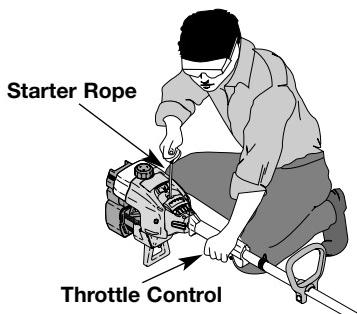

Fig. 11
**WARNING:** Avoid accidental starting. Be in the starting position when pulling the starter rope (Fig. 11). The operator and unit must be in a stable position while starting to avoid serious personal injury.
5. With the unit on the ground, squeeze the throttle control and pull starter rope briskly (Fig. 11). Continue pulling until the engine sounds as though it wants to run (normally 2 to 5 pulls).
7. Pull starter rope briskly 1 to 3 times to start the engine (Fig. 11).
1. Release your hand from the throttle control (Fig. 11). Allow the engine to cool down by idling.